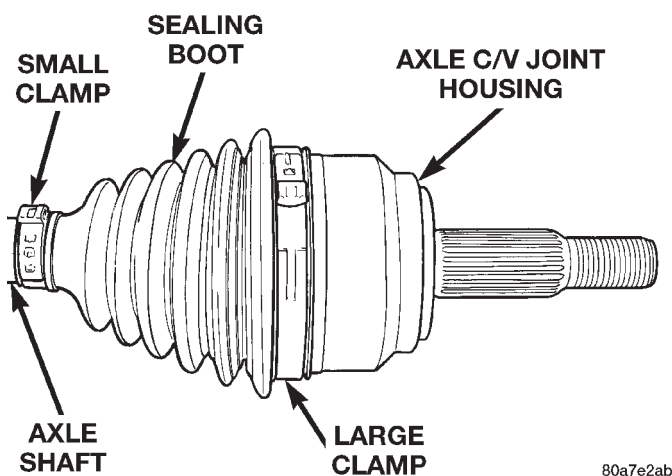

Fig. 6 Outer C/V Joint Seal Boot Clamps
- (1) Remove axle shaft.
- (2) Remove large boot clamp retaining C/V joint sealing boot, to C/V joint housing and discard.
- (3) Remove small clamp that retains outer C/V joint sealing boot to axle shaft and discard (Fig. 6).
- (4) Remove sealing boot from outer C/V joint housing and slide it down and off the axle shaft.